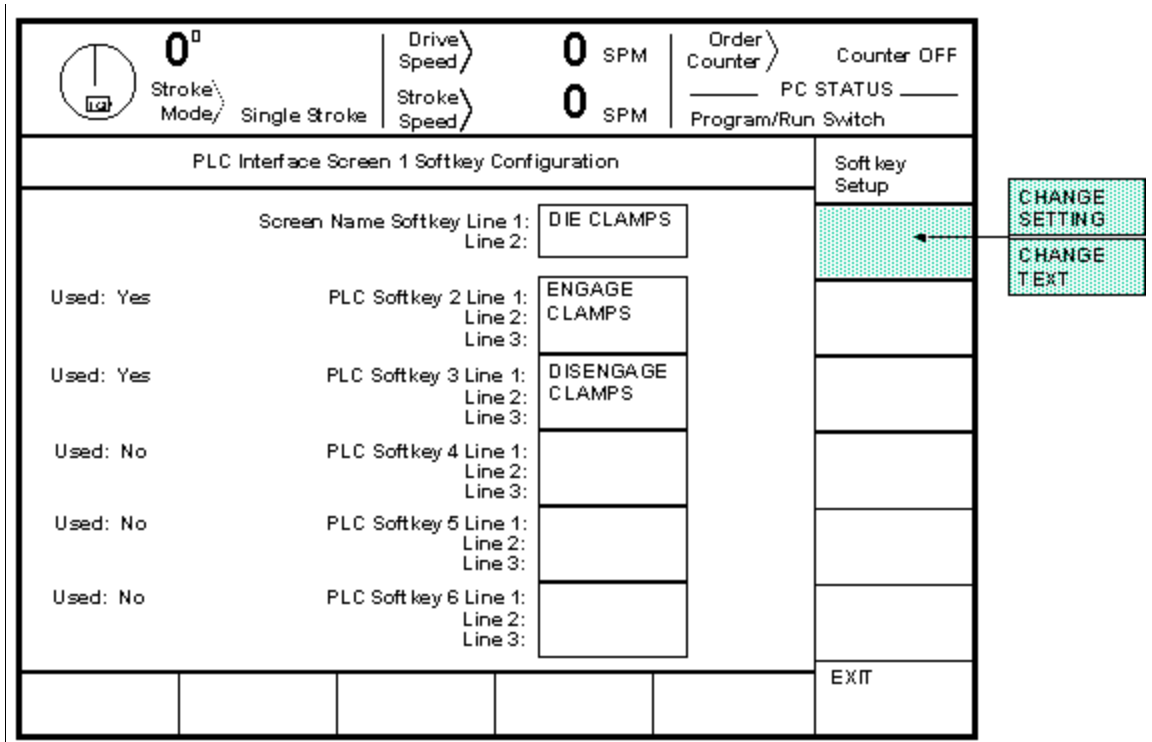
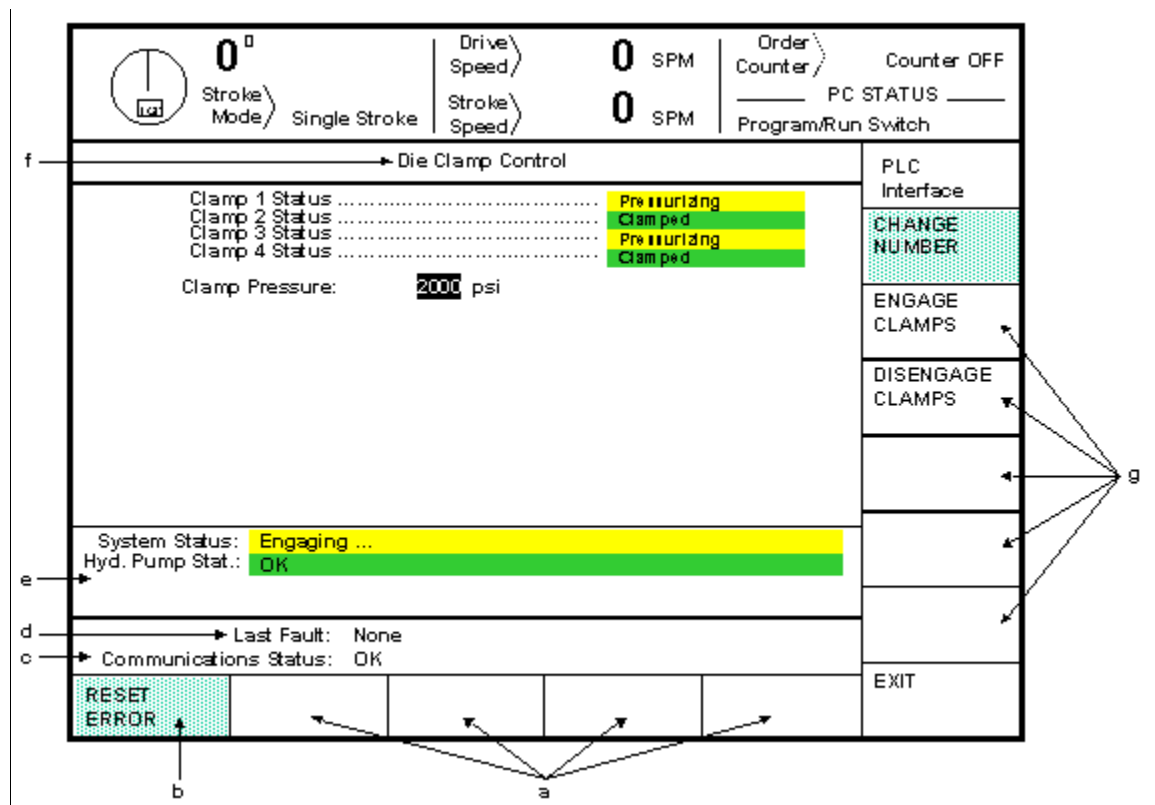

Figure 3.6: Example PLC Softkey Configuration Screen
Figure 4.1: Example PLC Operation Screen
Each PLC screen can have a “Screen Name” softkey and up to 5 PLC action softkeys. The “Screen Name” softkey is used for getting to a particular PLC operation screen if there is more than one PLC screen defined. It will appear in one of the softkeys positions at the bottom of the PLC operation screen (See “a” in Figure 4.1) if not currently on that screen. Pressing this key will, of course, take the user to this screen.
PLC action softkeys will send a message to the PLC whenever the softkey is pressed. This allows the PLC to take some action based on the particular key pressed. In the example of Figure 3.6, two keys have been configured to tell the PLC when to clamp and unclamp a die.
Each PLC action key (“PLC Softkey 2” through “PLC Softkey 6”) can be enabled or disabled by selecting “Yes” or “No” for the “Used” parameter. Softkeys that are not used will not be displayed on the PLC operation screen. See Figure 4.1 to see how these keys would look on the PLC operation screen.
The four status lines can be individually enabled or disabled on a line by line basis. If “Line X Used” is “Yes” then the status line will be shown on the PLC operation screen (see “e” on Figure 4.1 to see what this configuration shown in Figure 3.6 would look like on the operation screen)
- For the PLC Interface, the softkey name will be “PLC INTERFACE”. Press this softkey and the PLC Operation screen will be displayed. An example screen is shown as Figure 4.1. This example is in keeping with the die clamp example configured in section 3. Actual PLC operation screens will vary in appearance depending on configuration.
Referring to Figure 4.1:
Item “a” These softkeys are where the “Screen Name” softkeys will appear (as configured in the configuration screen of Figure 3.6). Note that the screen name softkey for the current screen will not appear. If two or more PLC screens are configured, the screen name softkeys for the screen that are not currently displayed will appear and will switch to that screen if pressed.
Item “g” These softkeys are the PLC action softkeys as configured in the screen of Figure 3.6. Depending on configuration, there will be 0 to 5 softkeys present.